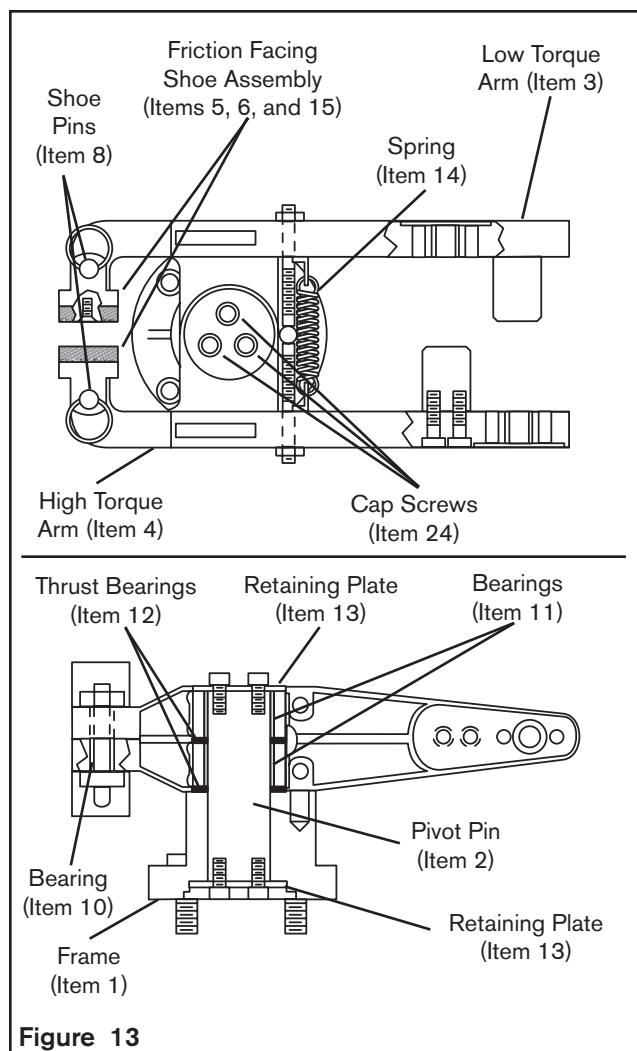

Figure 13
1. Manually release the spring actuators (See Figure 13).
4. Remove the Spring (Item 14) (See Figure 13).
5. Remove the Shoe Pins (Item 8), and Friction Facing Shoe Assembly (Items 5, 6, and 15) (See Figure 13).
6. Remove the three Cap Screws (Item 24) (See Figure 13).
7. Remove the top Retaining Plate (Item 13) (See Figure 13).
8. Remove the Low Torque Arm (Item 3) containing one old Thrust Bearing (Item 12) and the High Torque Arm (Item 4) containing the second old Thrust Bearing (Item 12) out of the Pivot Pin (Item 2) (See Figure 13).
9. Remove the two old Thrust Bearings (Item 12) from the Torque Arms (Items 3 and 4) (See Figure 13)
11. Press new Bearings (Item 10 and 11) into the Arms (Items 3 and 4) (See Figure 13).
12. Install the new Thrust Bearings (Item 12) (See Figure 13).
13. Reinstall the Low Torque Arm (Item 3) containing one new Thrust Bearing (Item 12) and the High Torque Arm (Item 4) containing the second new Thrust Bearing (Item 12) onto the Pivot Pin (Item 2) (See Figure 13).
14. Reinstall the top Retaining Plate (Item 13) (See Figure 13).
15. Reinstall the three Cap Screws (Item 24) (See Figure 13).
17. Reinstall Friction Facing Shoe Assembly (Items 5, 6, and 15) and Shoe Pins (Item 8) (See Figure 13).
18. Reinstall the Spring (Item 14) (See Figure 13).